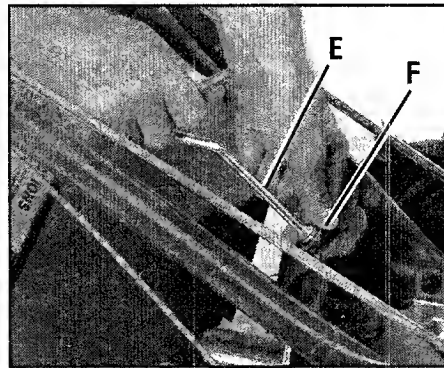

Figure 3-5
3. Loosen the height adjustment handle (E, Figure 3-5) and pull the keyed washer (F) free of the slots in the curved height adjustment bracket.